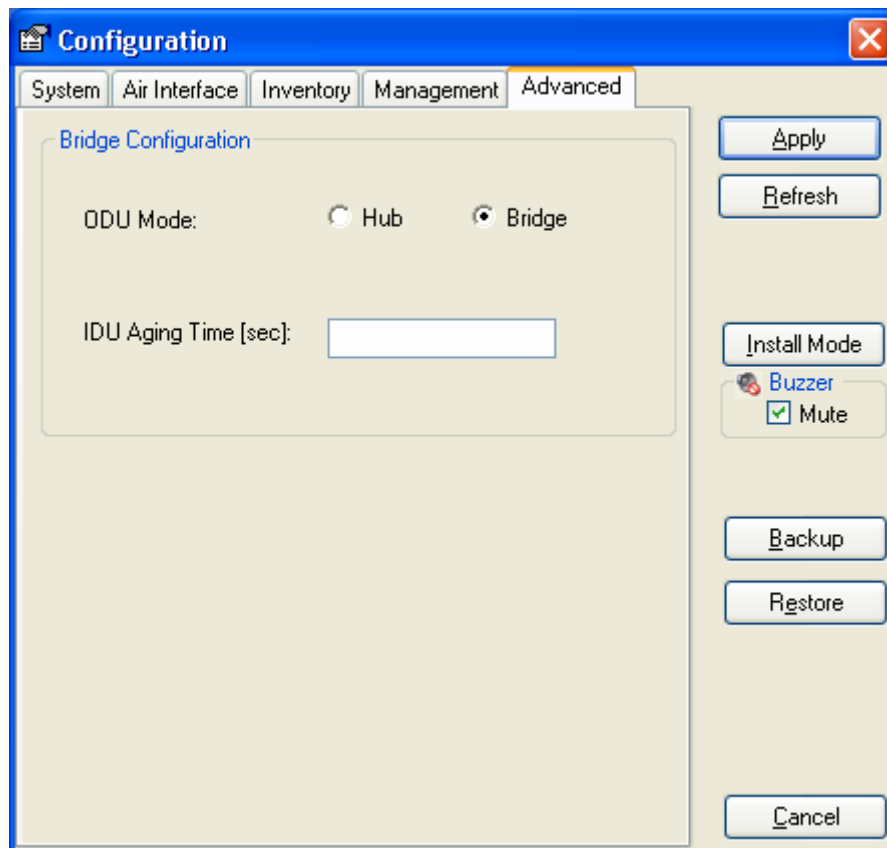

Figure 3-17. Site configuration dialog box
The bridge configuration parameters are available from the Advanced tab of the site configuration dialog box (Figure 3-17). There are two parameters:
- Bridge Mode (default) (Figure 3-17). In "bridge" mode the ODU performs both learning and aging, the aging time of the ODU is fixed.